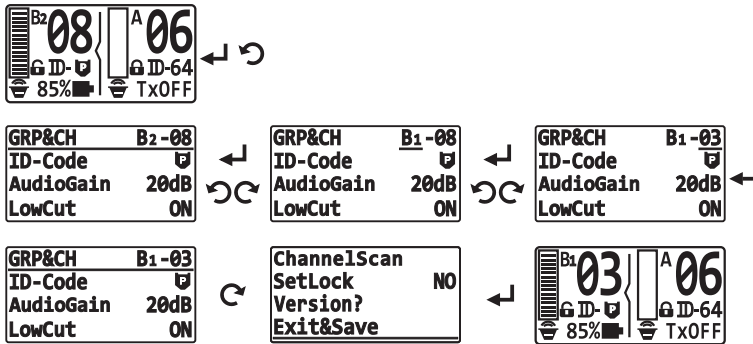

Fig. 19
- (A) Press once to activate parameter setup.
- (B) Turn and select a status bar. Press once to activate parameter setting.
- (C) Turn right or left to one of the programmed parameter value.
- (D) To save changes, turn and locate Exit & Save status bar, press once to save and return to home screen.
3. Setting GRP & CH, see Fig. 19: